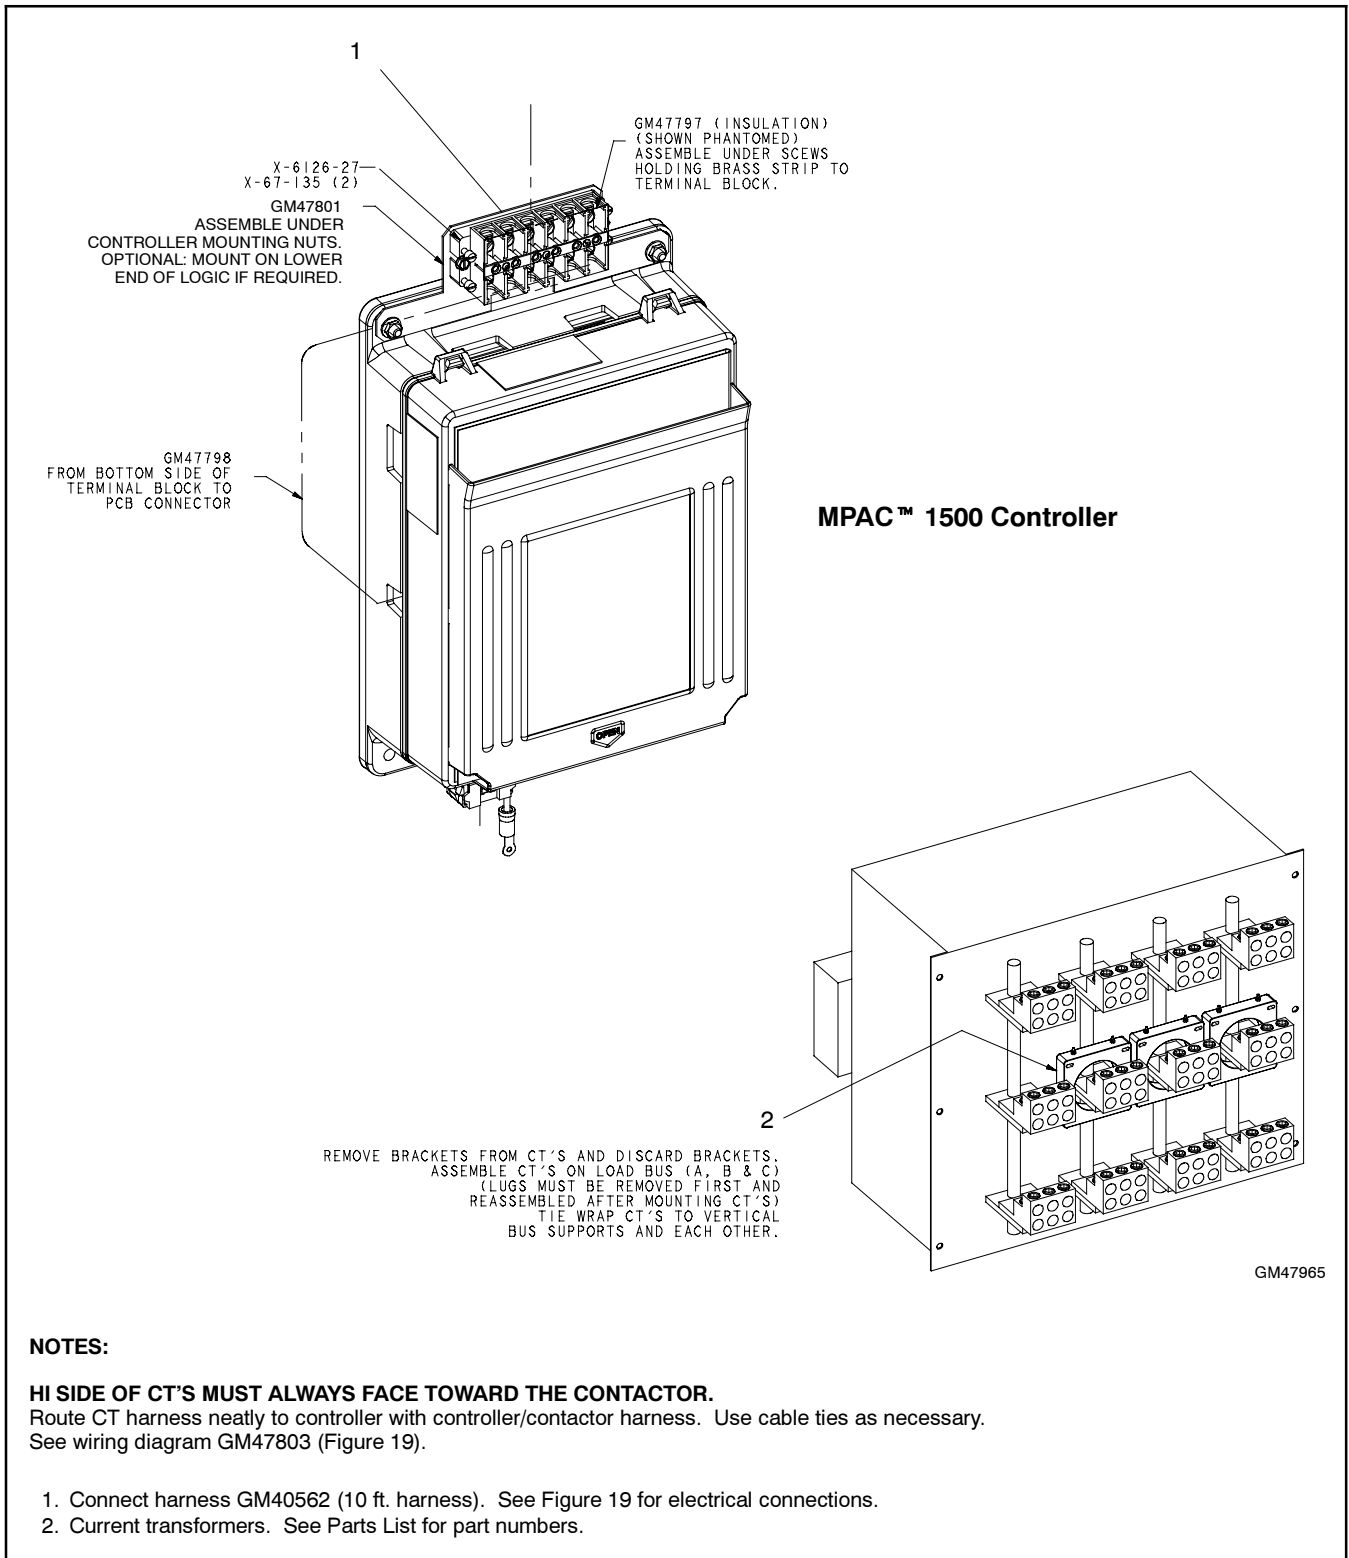

Figure 18 Current Sensing Kit Installation
20. If current sensing is required (i.e. for current [amps] monitoring and display), obtain the appropriately rated current sensing kit and install according to Figure 18.